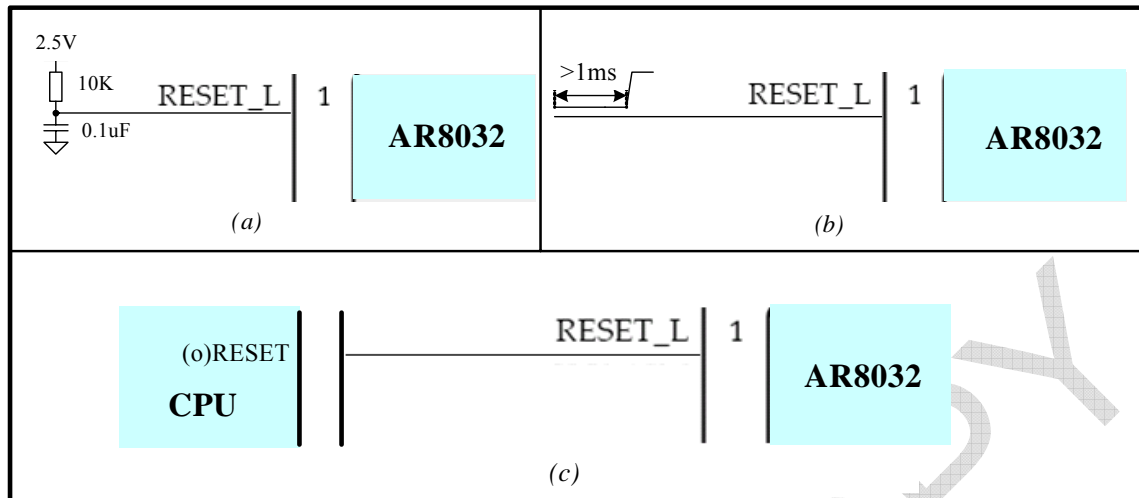

Figure 16: System reset circuit
AR8032 reset signal needs 1ms low logic level for a valid reset. There are two types of circuits for system reset and shown as *Figure 16*.
- (1) Build a RC charge up circuit for power on reset in which resistor equal 10k Ω to 2.5V and capacitor equal 0.1 μ F, *Figure 16(a)*.
- (2) Connect to system reset signal. The precondition is the system reset must keep low level longer than 1ms when power on, *Figure 16(b)*.
- (3) Connect to CPU system reset signal. The precondition is the system reset must keep low level longer than 1ms when power on, *Figure 16(c)*.